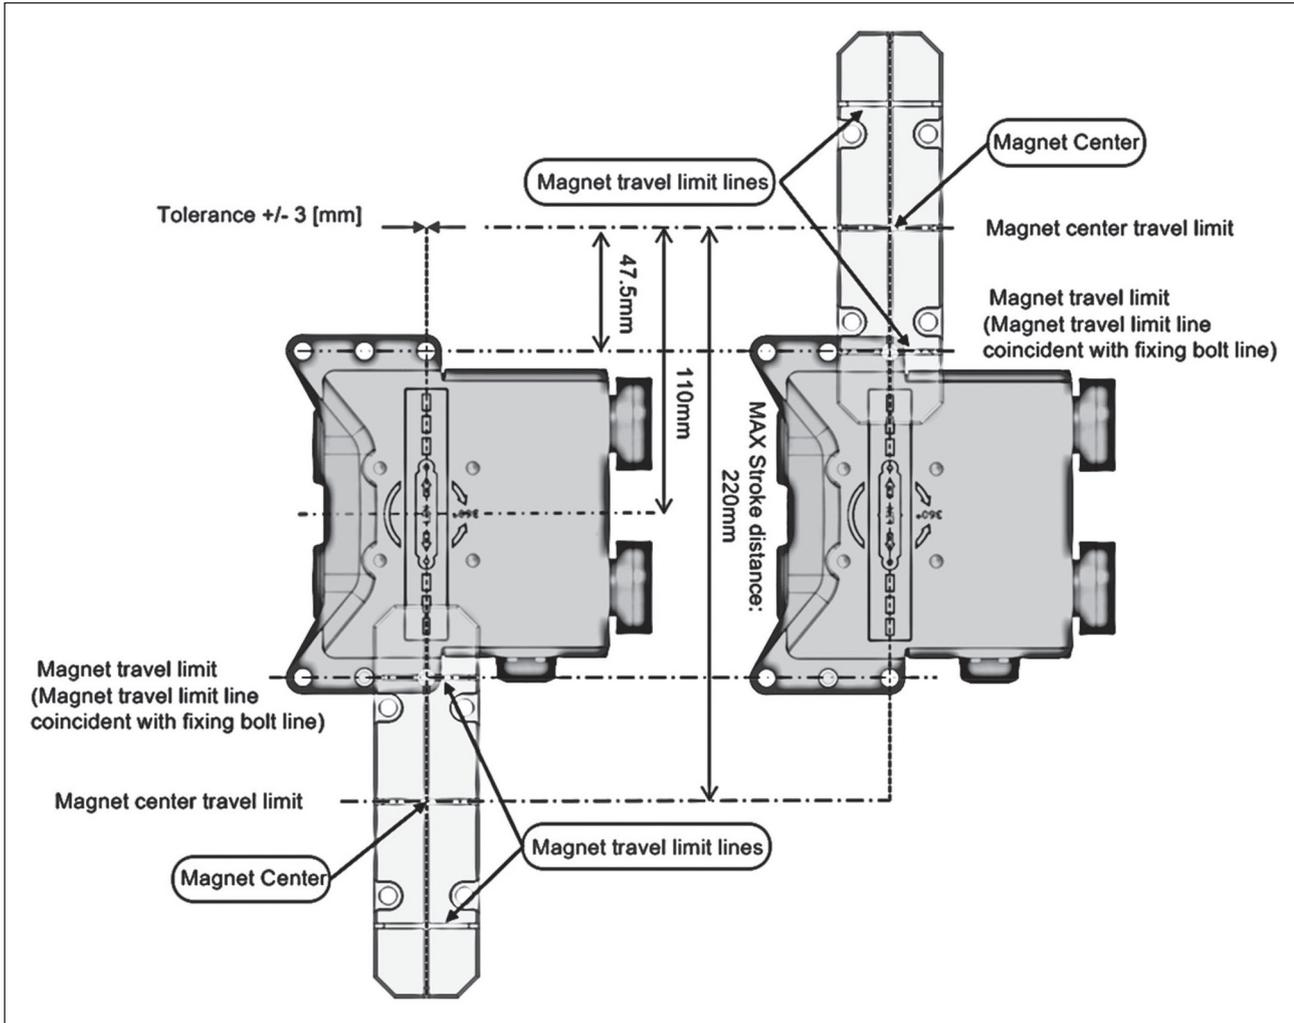

Fig. 27.
2. Magnet travel limit marks shall never exceed the magnet travel limits. See Fig. 27.